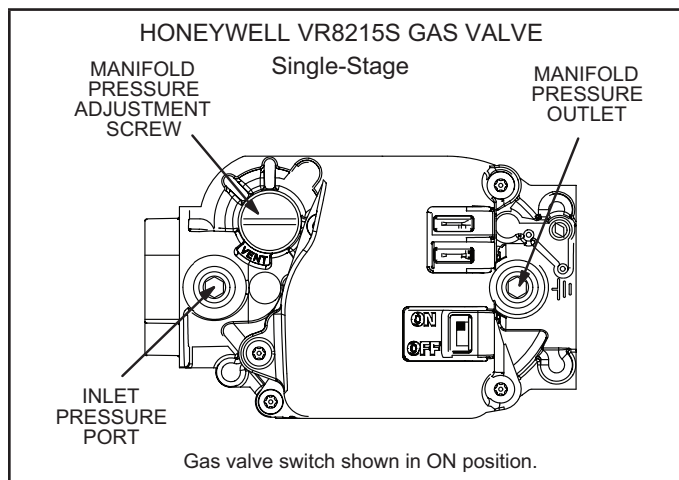
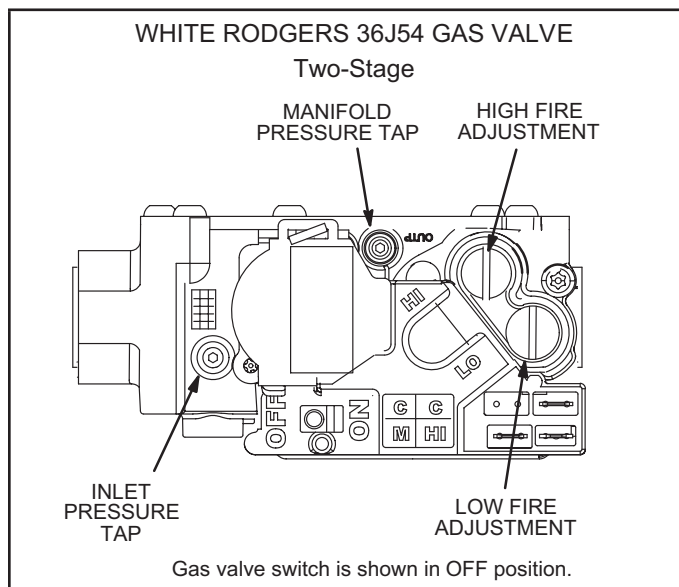

FIGURE 25
FIGURE 26
Gas Valve Operation (figure 25 and 26)
- 5 - Move gas valve switch to **OFF**. See FIGURE 25 or FIGURE 26.
- 6 - Wait five (5) minutes to clear out any gas. If you then smell gas, **STOP!** Immediately call your gas supplier from a neighbor's phone. Follow the gas supplier's instructions. If you do not smell gas, go to the next step.
- 7 - Move gas valve switch to **ON**. See FIGURE 25 or FIGURE 26.